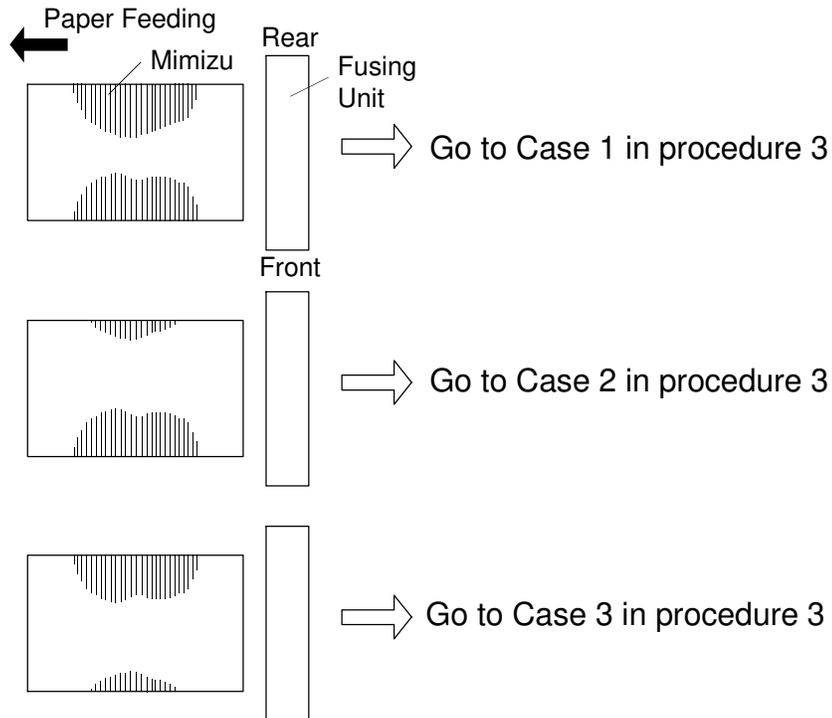

Figure 1
2. Confirm location and size of the "Mimizu" patterns on the copy image. Refer to figure 1, and choose the necessary procedure from the following: